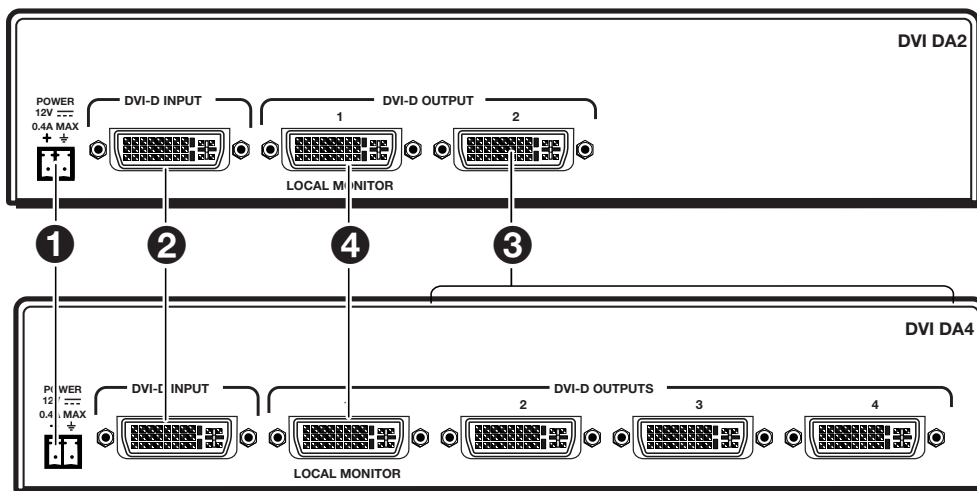
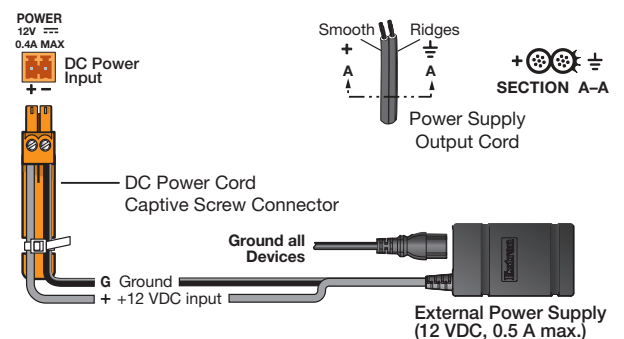

Figure 3. DVI DA2 (top) and DVI DA4 (bottom) Rear Panels
Figure 4. Power Connection
- 1 **Power input** (see figure 3) – Connect the provided power supply to the 3.5 mm, captive screw power receptacle.
- 2 **Input connector** (see figure 3 on the previous page) — Connect the input signal to the female DVI connector. The DVI input signal is equalized to ensure integrity.
To operate the unit (see figure 3 and figure 4 on page 2):
- **No output signal or poor quality signal** — Check the input and output cabling (figure 4 on page 2). DVI signals run at very high frequency and poor connections can cause degradation or loss of the signal, or jitter. To avoid this: